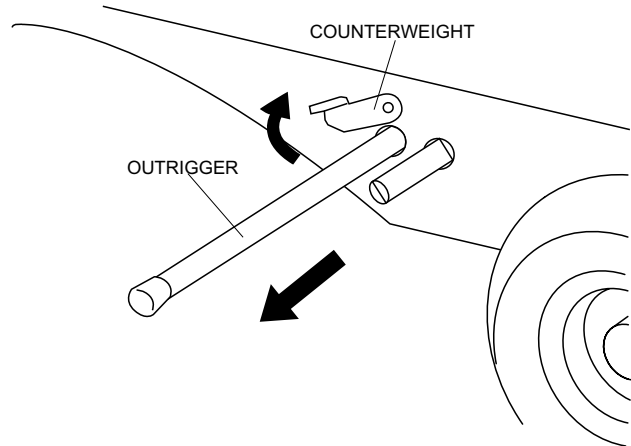

Figure 15. Deploying Outrigger
1. Pull up the counterweight that holds the outrigger in place and pull the outrigger all the way out. See Figure 15.